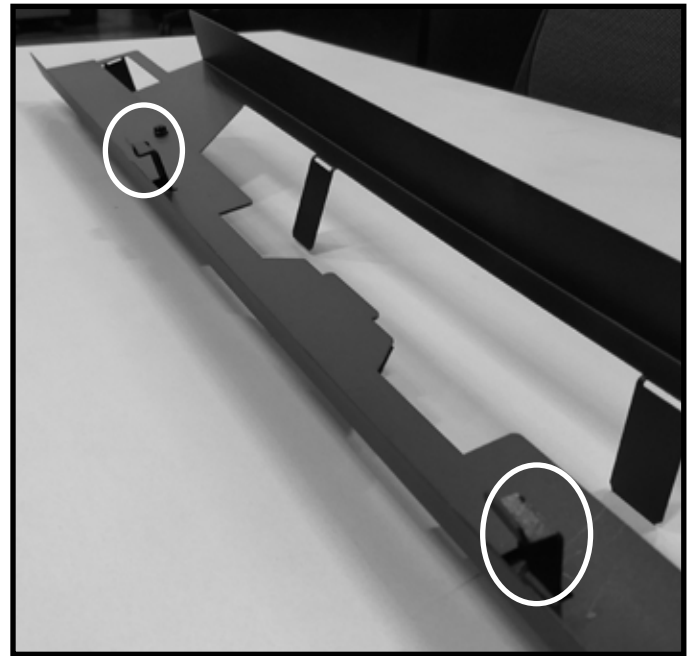

Figure 11.2 Refractory Support Tabs
2. Locate the two tabs on the refractory support inside the front of the appliance. Use a pliers to bend the tabs as shown in Figure 11.2.